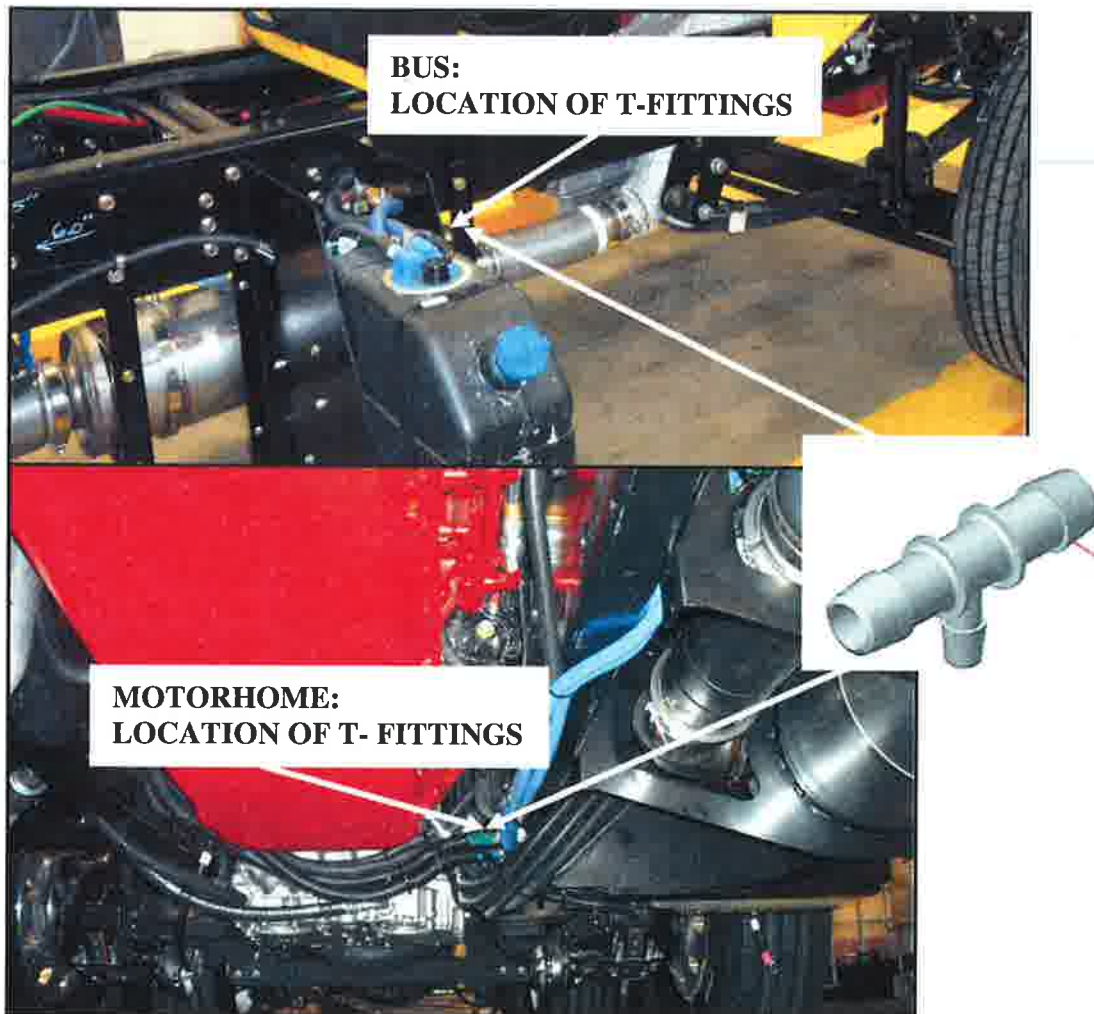

FIG. 2-1
1. Locate and inspect T-fittings on the passenger side of vehicle behind the DEF tank and under the frame rail. If the fitting material is brass no actions are required. If the fittings are made of plastic, proceed with the remaining steps of the bulletin. Refer to FIG. 2-1.